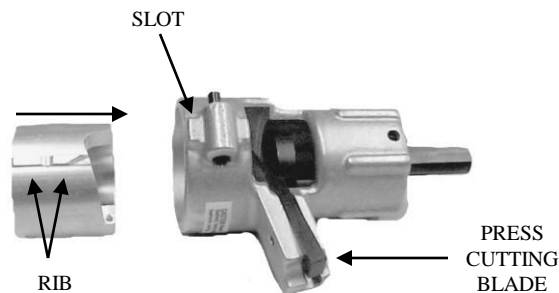

Fig. 2
Step 2. (Fig. 2) To insert the bushing into the WS6-M, line up rib on the bushing with the slot on the WS6-M housing. Raise the cutting blade by depressing outer end and insert the bushing until it locks into place.